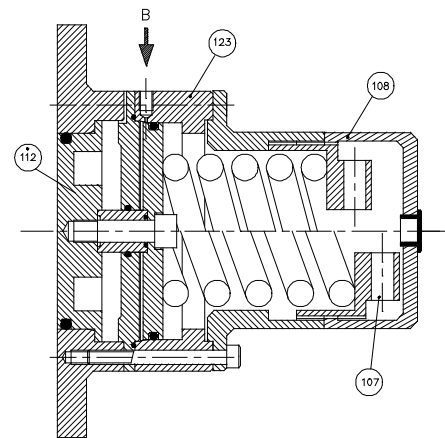

Figure 13
Spring Loaded with Air Lift - see Figure 13.
- Unscrew nut (107) using pry bar in holes provided to relieve spring compression. For integral relief valve with airlift, see Figure 13, the air cylinder must be exhausted prior to unscrewing the nut (107).
- Screw in nut (107) using pry bar in holes provided until the required pressure relief setting is reached.
For Integral Relief Valve with Air Lift - see Figure 13.